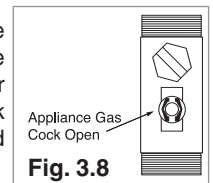

FIG. 3.8
4. Turn on the gas cock(fig. 3.8) and check the seals on the connections, including the one for the burner, making sure that the meter does not signal the passage of gas. Check the connections with a soap solution and eliminate any leaks.